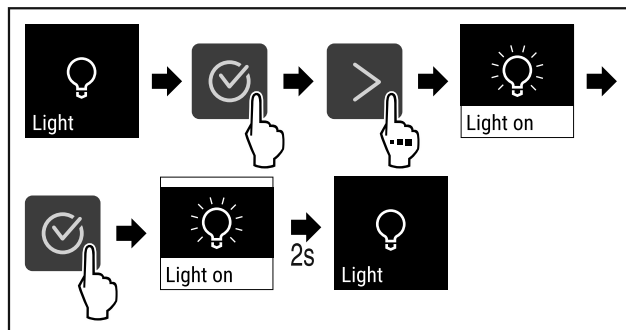

Fig. 68
- ▶ Carry out steps (see Fig. 68).